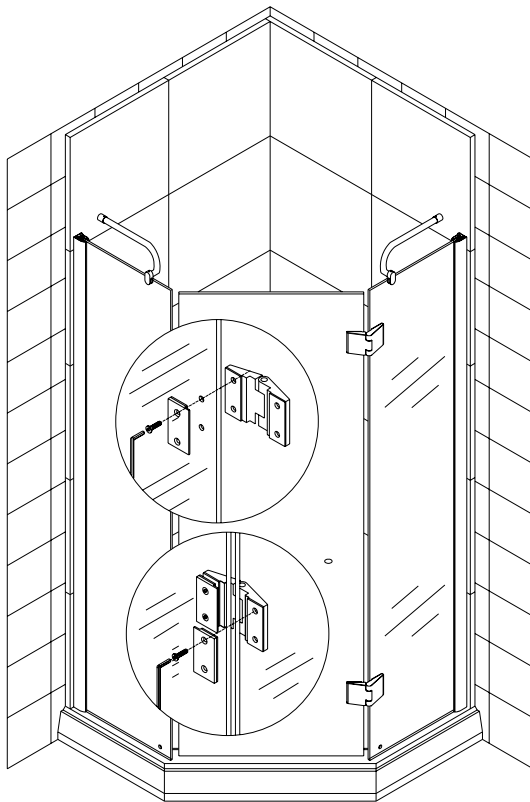

Fig 5
5. Install the **hinges (07)** onto the narrow stationary glass panel and the glass door. Upper edge of glass door should be on the same level as upper edge of the stationary glass. You will need assistance in this process. Start off by attaching the hinges to the stationary glass panel. Place the hinge from the outside and screw it in from the inside, do this for the bottom hinge and the top hinge, but start first from the top hinge when you begin to put the door on. Make sure that until both hinges are installed securely, the door does not swing around or lean/bend to any side because that could cause the hinge to snap. After the hinges are installed open and close the door to make sure it's nice and smooth (fig 5).